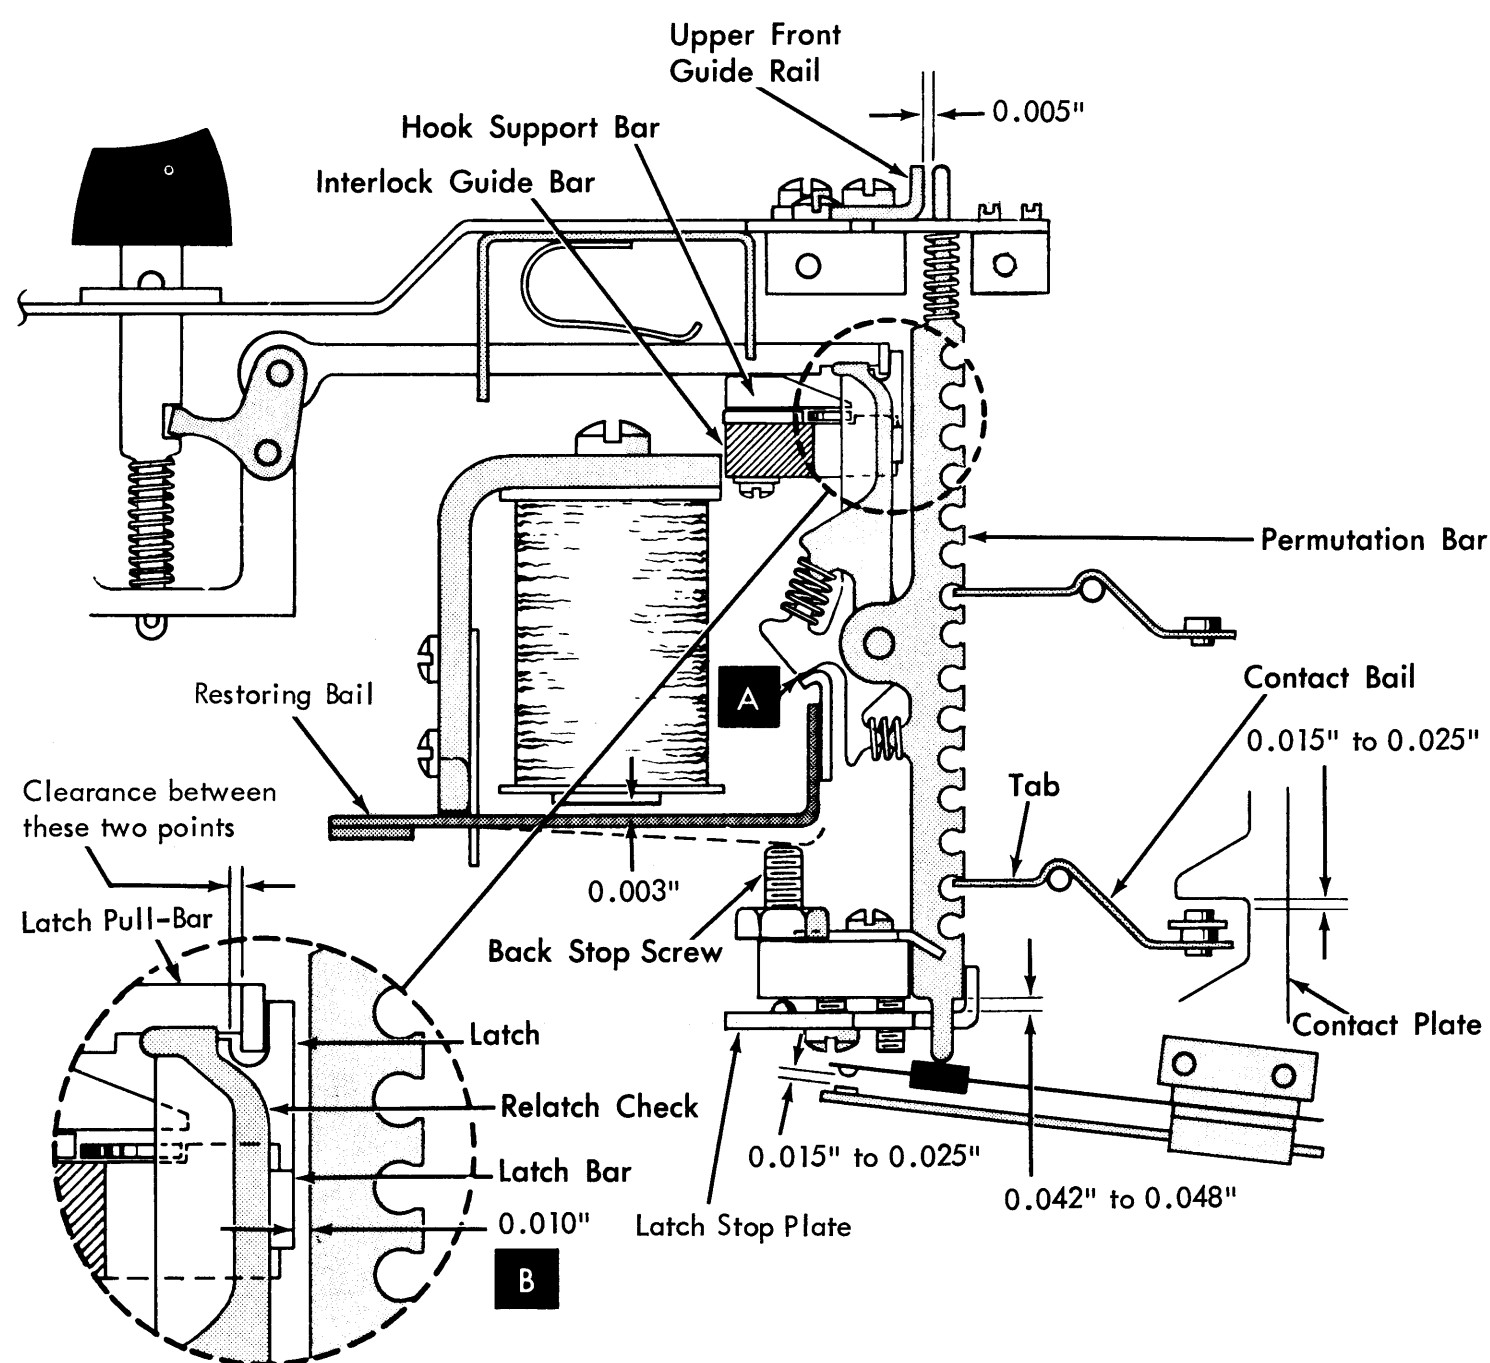

Figure 4-53. Keyboard Adjustment
With bail contact assemblies out of the machine, form each contact strap to require a pressure of 9 to 11 grams to close points (measure at contact point). Position the contact plates for contact air gap of 0.015 inch to 0.025 inch with all latch assemblies restored (Figure 4-53).
bail contacts all latches at A, Figure 4-53. This should result in 0.010-inch maximum overtravel of latching point with gage removed.
2. Position the comb for 0.010-inch (± 0.005 -inch) clearance between latch bar and permutation bars (B, Figure 4-53).
Note: Do not oil or grease the hook ends of the latch pull-bars. On reassembly, check clearance of latch to pull-bar (Figure 4-53).
2. Lift the key from the unit while the end of the latch pull-rod is held up and clear of latch. Be careful that the keystem spring does not drop into the unit. Refer to Figure 4-53.
5. Reassemble keyboard. Check the clearance of the latch to the pull-bar (see Figure 4-53).